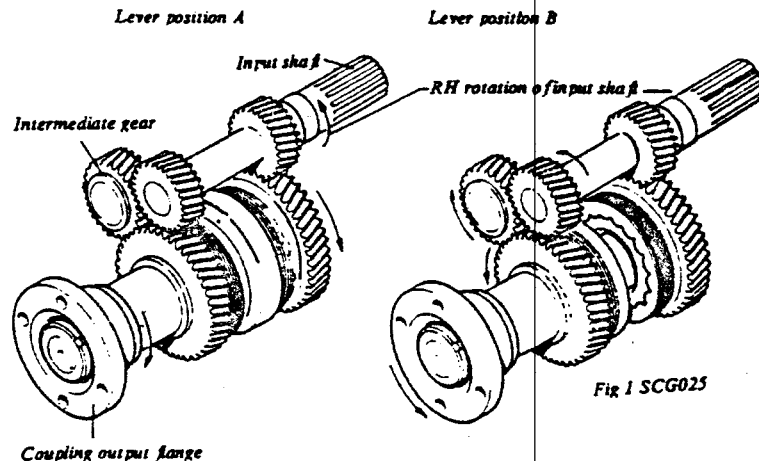

Fig 1 SCG025
All transmission sizes are available for right-hand (RH) and left-hand (LH) rotation of the input shaft, the direction of rotation being specified as seen by an observer facing the output shaft. In gear lever position A, the engine shaft and the propeller shaft rotate in opposite directions, in position B in the same direction (Fig 1).